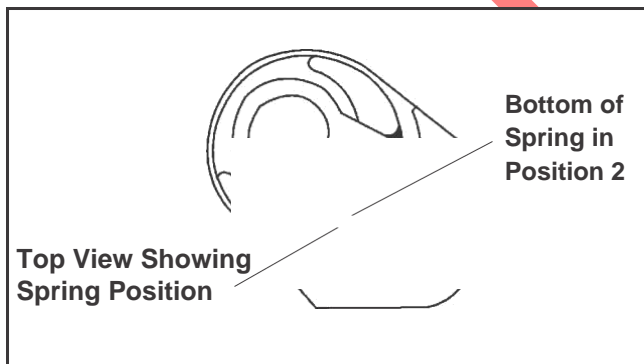

Figure 5-16. Choke Lever with Cap Removed.
3. Install choke shaft and spring assembly with the lower spring tang installed in the second notch from the right. See Figure 5-16.